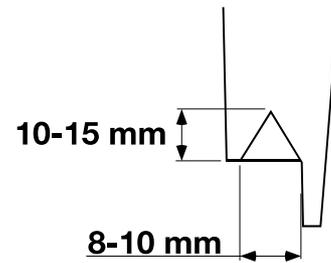

Fig 10.
- d Fit the pre-cut nozzle. → Fig 10. (□ B-5).